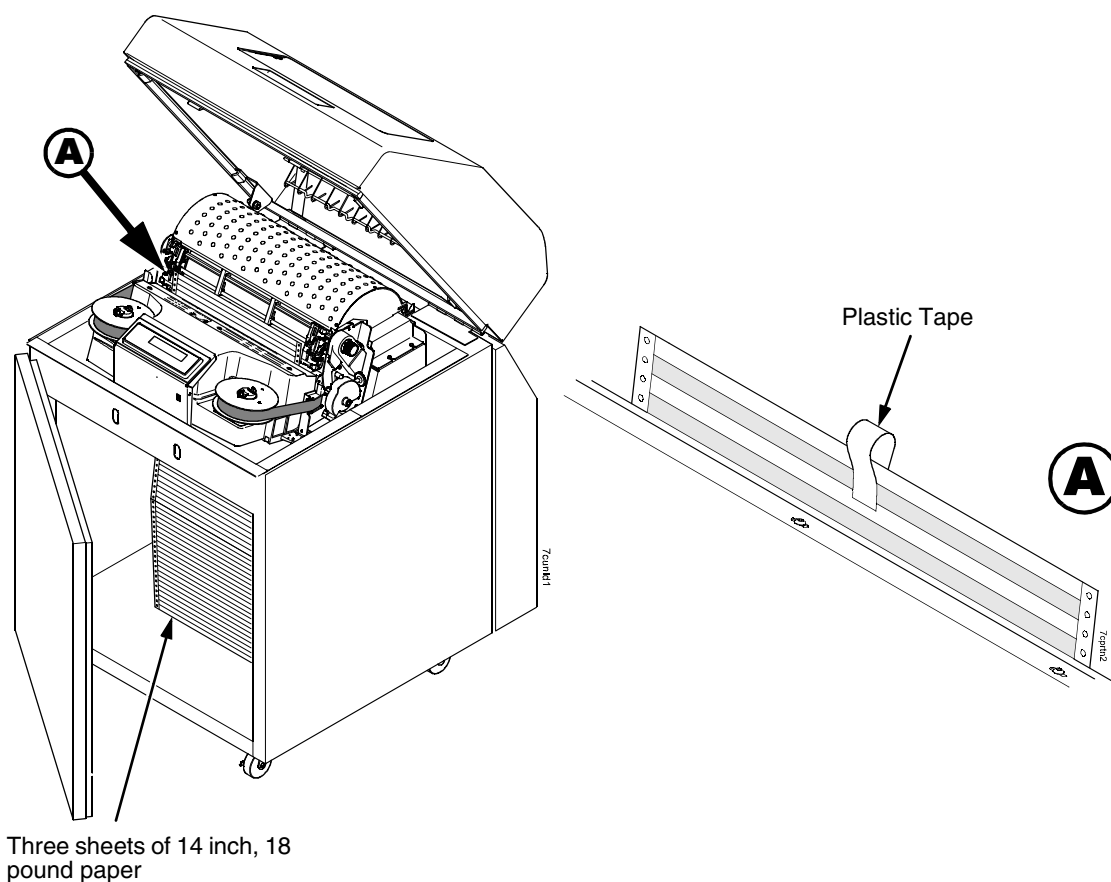

Figure 18. Preparing Paper for Tension Measurement
4. Prepare a length of 14 inch wide paper consisting of three sheets that are still attached at the perforations. The paper must be single part, 18 lb. maximum weight, 0.0036 inch (0.09 mm) maximum thickness. Open the cabinet front door and feed the paper up through the print station until the first page clears the ribbon mask by about one inch. (Figure 18.)
5. Fold a two inch piece of plastic tape over the top sheet, midway between the sides, as shown in Figure 18 detail A.